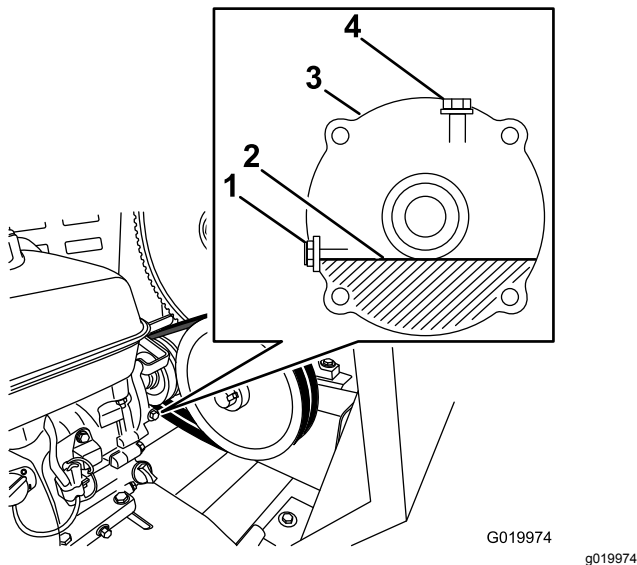

Figure 59
5. Locate the reduction case between the engine and the engine pulley (Figure 59).
7. Remove the oil-level-check bolt and washer from the oil-level port (Figure 59).
- A. Remove the filler bolt and washer from the filler port on the top of the reduction case (Figure 59).
- C. Install the filler bolt and the washer to the filler port of the reduction case, and tighten the filler bolt (Figure 59).
8. When the oil is level is flush with the threads at the bottom of the oil-level port, install the oil-level-check bolt and washer to the port, and tighten the bolt (Figure 59).
11. Slowly pour the specified oil into the fill port until the oil level is level with the threads at the bottom of the oil-level port (Figure 59).